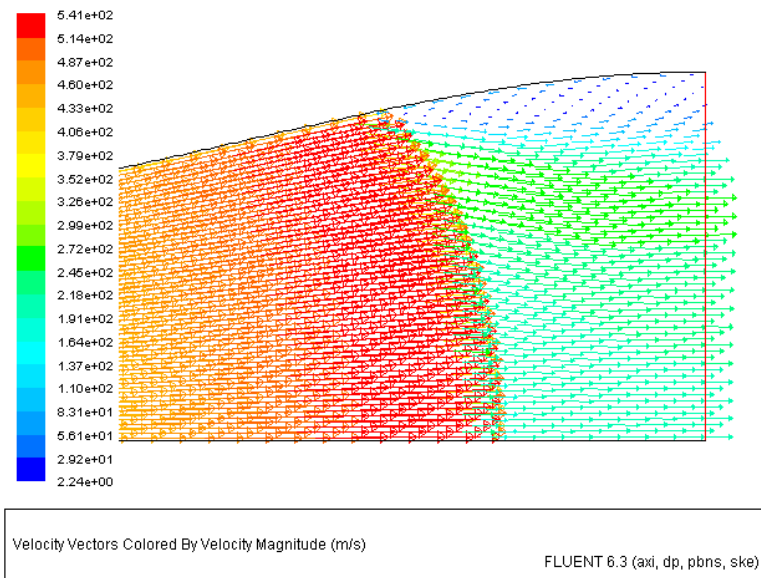

Figure 7.6: Magnified View of Velocity Vectors
3. Zoom the view to get the display as shown in Figure 7.6.